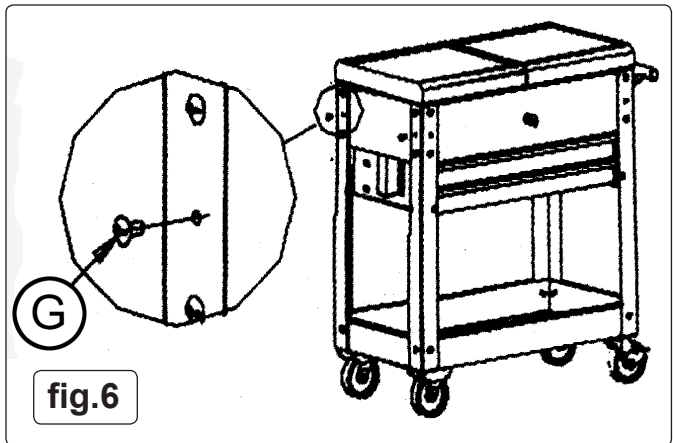

fig.6
- 4.6 Insert two more bolts at the bolt position second from the top at the other end of the trolley as shown in fig.6.